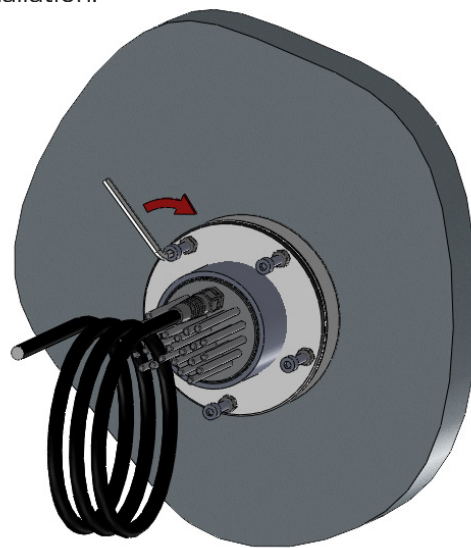

Fig.4.3
3. Thread the washer and locking ring onto the stem of the light body. The stainless steel compression washer does not need to be flat to the hull. An undulating surface can be taken up with the washer. The locking ring should also not sit flat against the washer. Depending on the angle of the hull inside the boat the locking bolts will be able to take up an uneven surface. DO NOT over-tighten locking bolts, you will fracture the light body and this will not be covered under warranty. (See Fig.4.3).